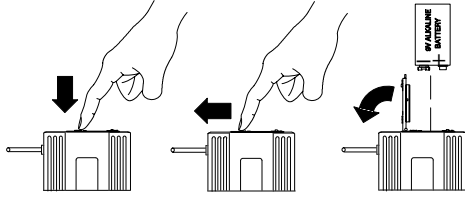

FIGURE 11
2. Press down on the OPEN side of the battery compartment cover, slide it back and flip it open, as shown in Figure 11.
3. Insert a fresh 9V alkaline battery into the battery compartment as shown in Figure 11 (Duracell MN1604 recommended and included with the system). A fresh 9V alkaline battery should typically provide 18 hours of performance time. A fully charged 8.4V NiCad battery should provide 2 hours of performance time. When the red LOW BATTERY light on the transmitter glows, you have 1 hour or less of useful battery life remaining; change the battery at your first opportunity.